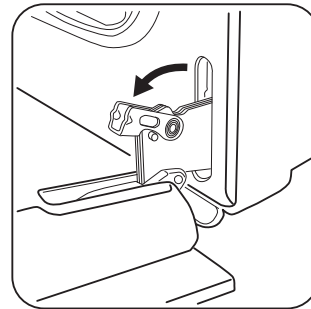

Figure 22: Door hinge Locks
2. Lift and turn/pull the levers on both of the door hinge locks down from the oven frame completely towards the oven door (Figure 22). A tool such as a small flat-blade screwdriver may be required.
3. Fully open the oven door, horizontal with floor (Figure 22).
4. Lift and turn/push the levers on both of the door hinge locks up towards and into the oven frame to the locked position (Figure 22).